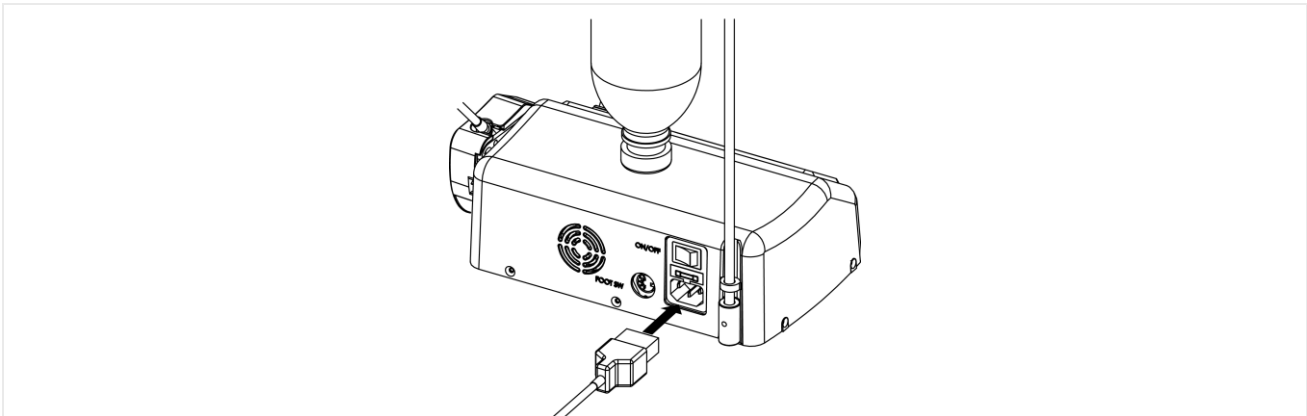

Fig.2-9
7. Plug the power supply cable into the connector on the back of the device (Fig.2-9) and then into the power outlet.